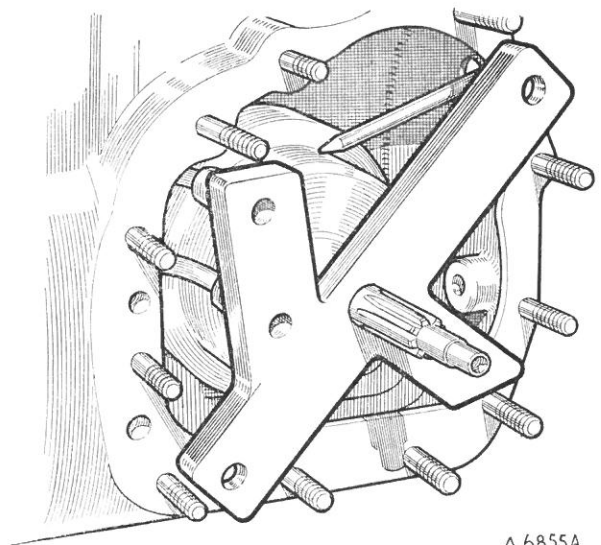

Fig. Fa.20
*Engaging the valve block linkage (1) with the spring clip drive mechanism (2) of the governor*
- (36) Fit a new joint washer to the transmission casing. Fit service tool 18G 1094 to align the pipes (Fig. Fa.20) and remove the tool.